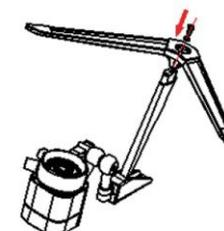

Figure 2
- ◆ Take out the tripod from the box and lock the support column on the tripod with screws and washers, as shown in Figure 2.